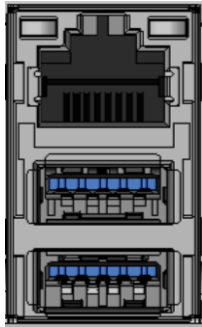
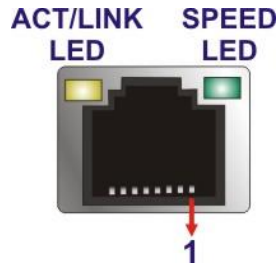

Figure 3-30: USB 3.2 Gen1 and LAN Connector
Figure 3-31: LAN Connector
- CN Location:** See **Figure 3-30** and **Figure 3-31**